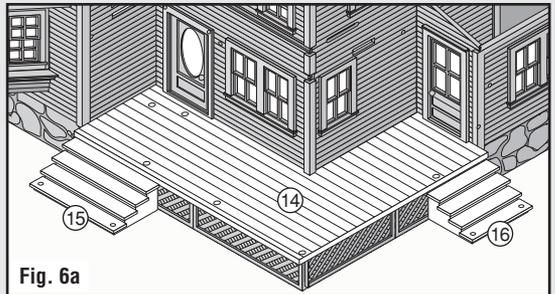

Fig. 6a
- Slide Porch Floor (14) up against Front and Side Walls and glue in place. Glue Front Porch Stairs (15) and Side Porch Stairs (16) in place. (Fig. 6a)